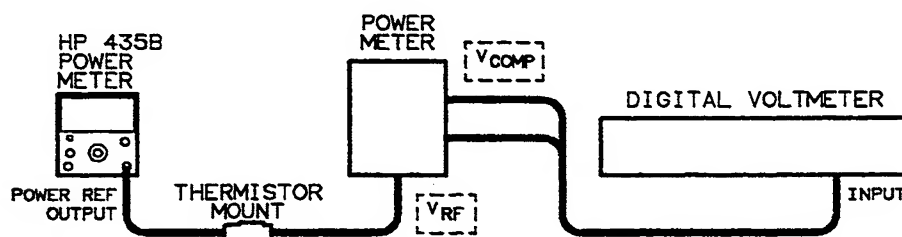

Figure 4-1. Power Reference Level Test Setup
3. Connect the HP 432A Power Meter to the HP 435B Power Meter as shown in Figure 4-1.